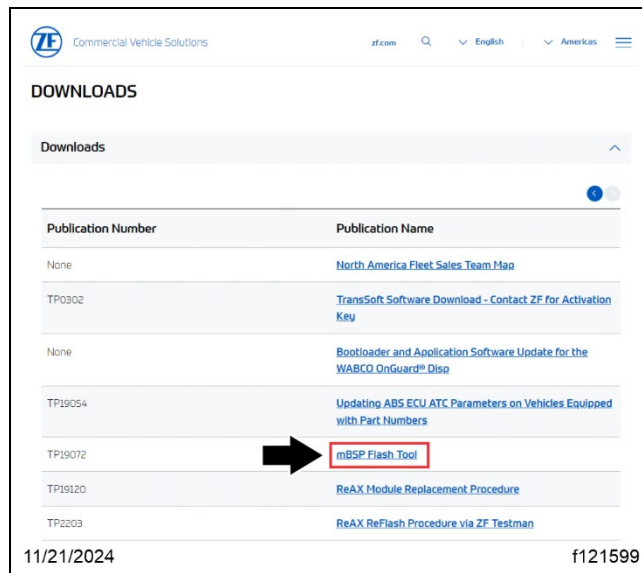

Fig. 23, mBSP Flash Tool Download Link
- 5.2. Scroll down to the 'Downloads' section towards the bottom, and select 'mBSP Flash Tool.' See **Fig. 23**.